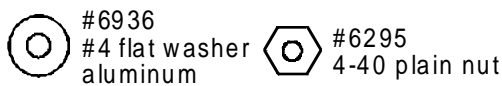
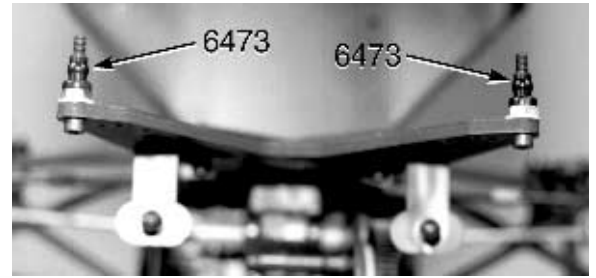

Fig. 132
Fig. 133
□ **Figs. 132, 133 & 134** Now we are ready to start installing the shocks onto the truck. We will start with the rear shocks. (1) From bag #7-9 remove two #6927 4-40 x 3/4" SHCScrews, two #6936 #4 aluminum flat washers, and two #6295 4-40 plain nuts. (2) Screw the 3/4" SHCScrews into the top outside hole of the rear fiberglass shock strut, from the back (transmission) side as shown in fig. 132. (3) Now install one of the #4 flat washers on the front and then thread on the 4-40 plain nut. (4) Tighten the screws and nuts. (5) Now go back to bag #7-9 and remove the two #6473 nylon shock bushings. (6) Install one onto the threads of the two screws we just installed (see fig. 133). Make sure that the flange of the bushing is against the 4-40 plain nut.